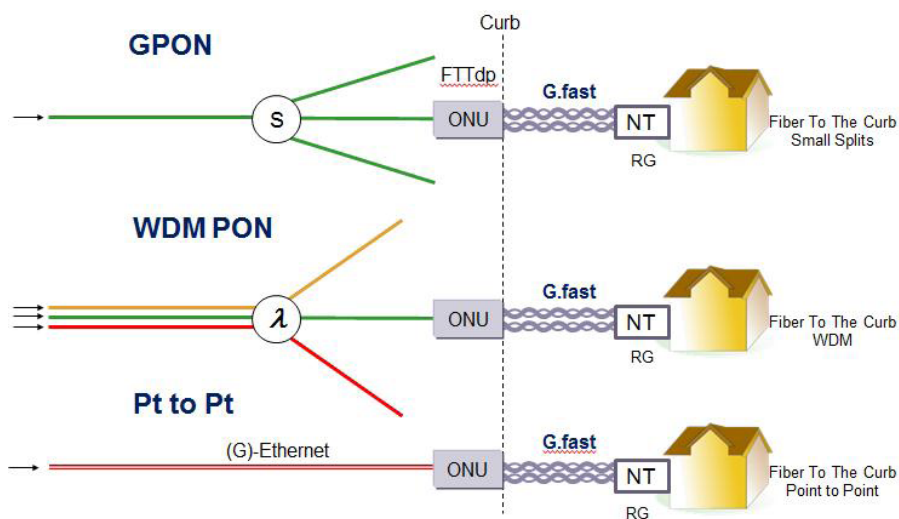

Figure 13. G.fast/optical network configurations
G.fast is the short name given to work in the ITU to define a new copper transmission technology focused on providing much-higher bandwidth over copper loops out to 650 feet (200 meters). G.fast achieves this performance, in part, by increasing the signal spectrum to 200 MHz—although the exact spectrum has not yet been defined. The concept includes FTTCurb designs to achieve the very short loop lengths. The term FTTDp (distribution point) describes a new type of ONU, shown in Figure 13.